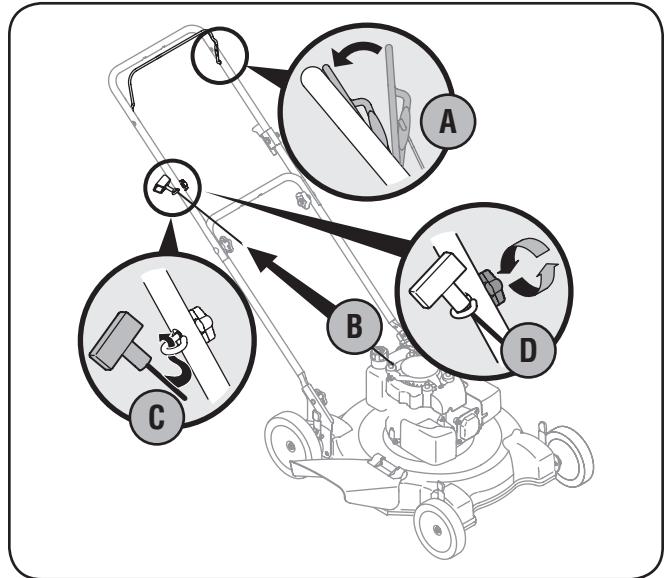

**Figure 3-3**
2. If satisfied with the height of the handle, tighten the star knobs at the ends of the lower handle shown in Fig. 3-3. For convenience of operation, you may adjust the handle height as follows:
- a. Remove the star knobs shown in Fig. 3-3 and remove the lower handle.